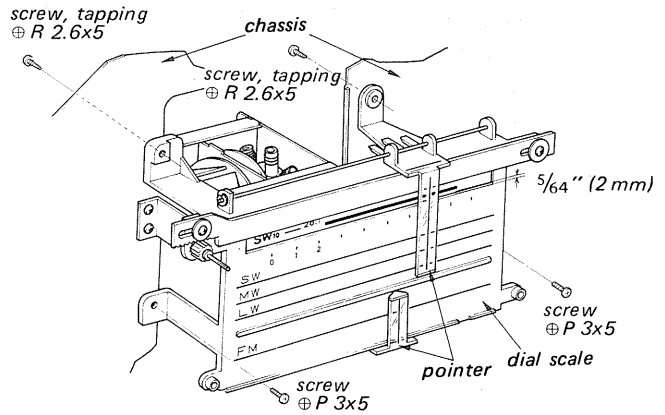

Fig. 2-15
4. Turn the dial drum so that the drum indicates SW10 and the distance between the dial scale and the line on the drum becomes 5/64 inches (2 mm) as shown in Fig. 2-15.
2. Remove the four screws shown in Fig. 2-15.